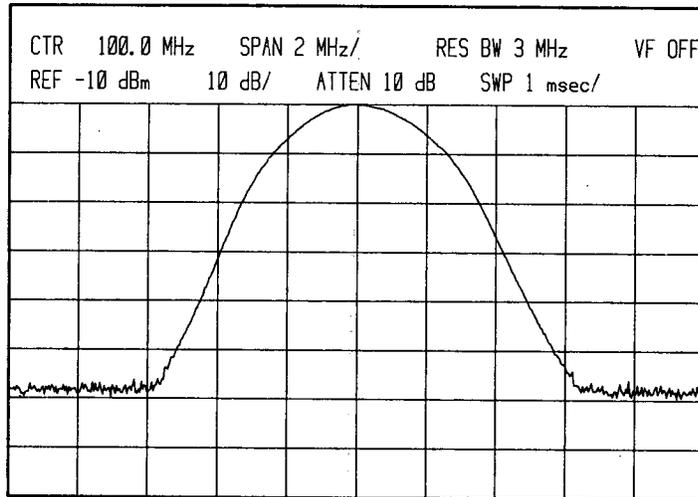

Figure 5-38. 321.4 MHz Bandpass Filter Alignment, Spectrum Analyzer Display
22. Check that 100 MHz signal on spectrum analyzer display has a symmetrical bandpass. A typical bandpass shape is shown in Figure 5-38. If bandpass symmetry is worse than shown in Figure 5-38, small adjustments of A37C1 through A37C4 should be performed to improve bandpass shape. However, do not sacrifice more than 1 dB of signal amplitude when adjusting for best bandpass shape (loss of signal amplitude reduces instrument sensitivity).